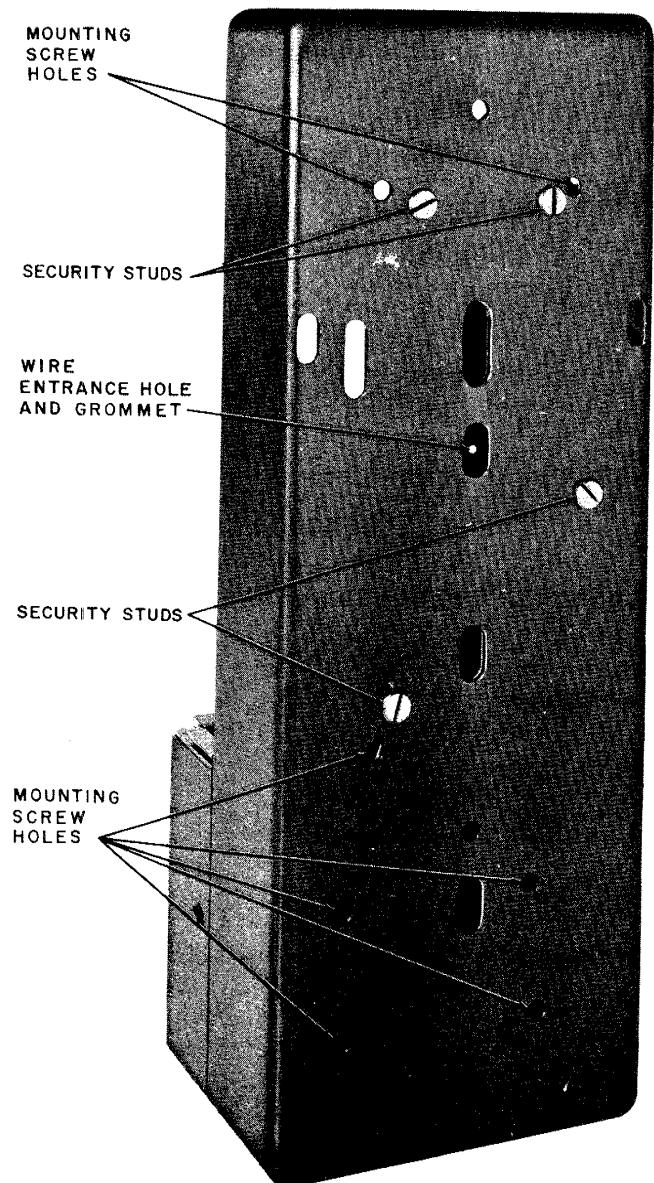

Fig. 1—Location of Mounting Screw Holes and Security Studs
- 3.05 Refer to Fig. 1 for mounting screw and security stud locations in the coin telephone.